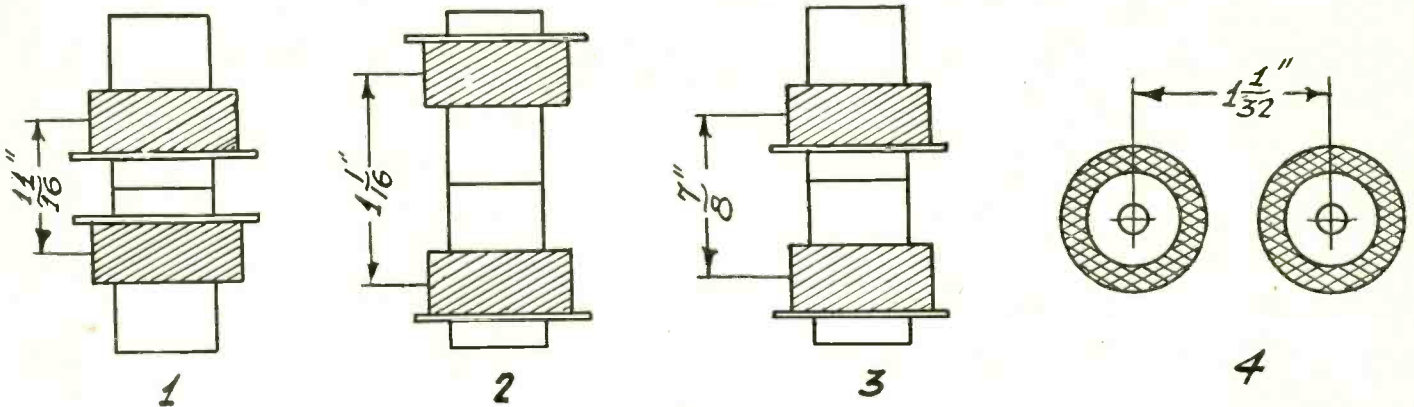

Fig. 2
In Fig. 2 is shown the method of mounting the intermediate frequency coils. The proper position for the case when both the primary and the secondary are tuned is that in (2). If, however, a little closer coupling is desired, and hence greater sensitivity but less selectivity, the mounting shown in (3) may be used. The mounting in (1) is not suitable when both windings are tuned but may be used when only one is tuned, whether that be the primary or the secondary. The method of coupling the coils shown in (4) can also be used when both windings are tuned. These statements refer to the distances given between the centers of the coils.